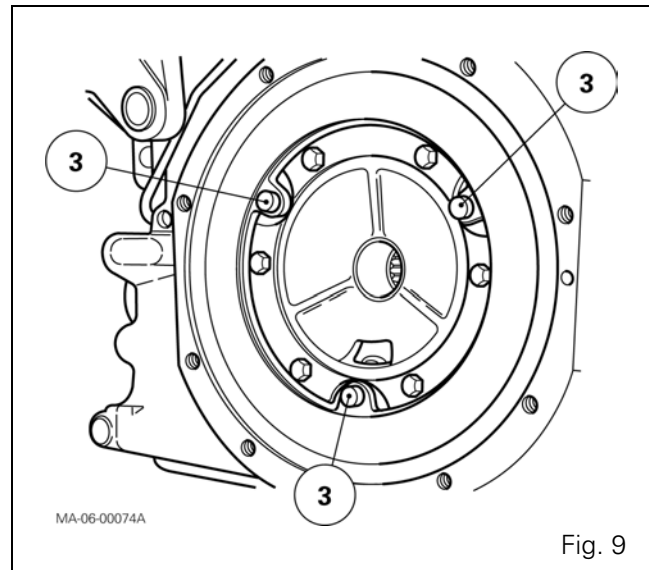

Fig. 9
Fit the screws (3) (Fig. 9) after lightly smearing them with Loctite 241 and tighten them to a torque of 10 Nm with the locally made socket.